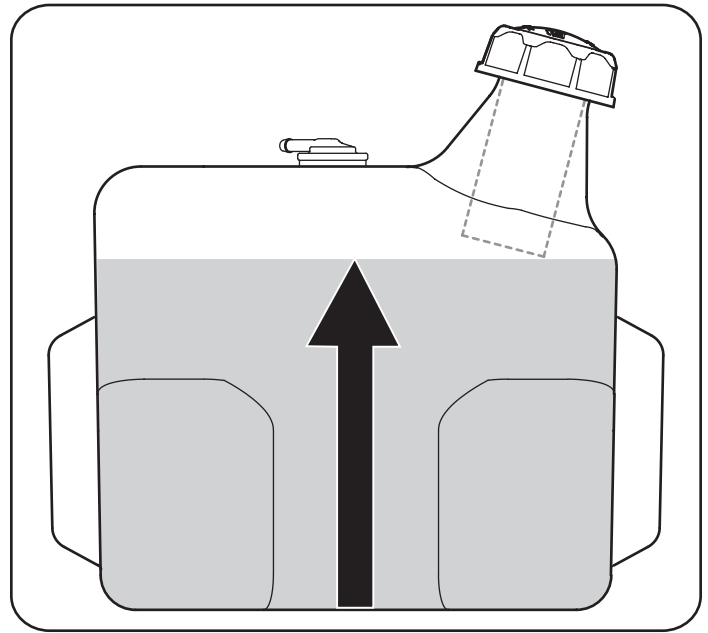

Figure 10
2. Fill the fuel tank with gasoline. Use only clean, fresh (no more than 30 days old), unleaded gasoline. Fill tank to no more than 1/2" below bottom of filler neck to allow space for fuel expansion. See Figure 10.
**IMPORTANT:** Do not overfill the tank. Fill tank to no more than 1/2" below bottom of filler neck to allow space for fuel expansion. See Figure 10.